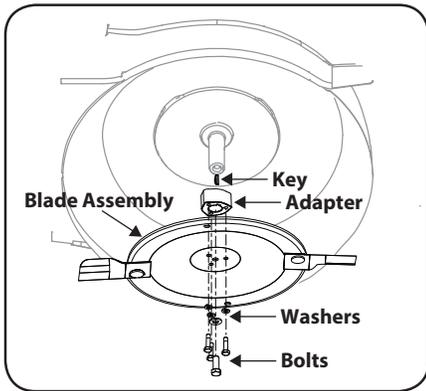

Figure 7-1
2. Remove the bolt and the flat washer and the blade adapter and the blade assembly to the engine crankshaft. See Fig. 7-1.
3. Remove blade assembly and adapter from the crankshaft. See Fig. 7-1.
5. Lubricate the engine crankshaft and the inner surface of the blade adapter with light oil. Slide the blade adapter onto the engine crankshaft. Place the blade assembly on the adapter such that the side of the blade without a wing faces the ground when the mower is in the operating position. Make sure that the blade assembly is aligned and seated on the blade adapter flanges. See Fig. 7-1 inset.